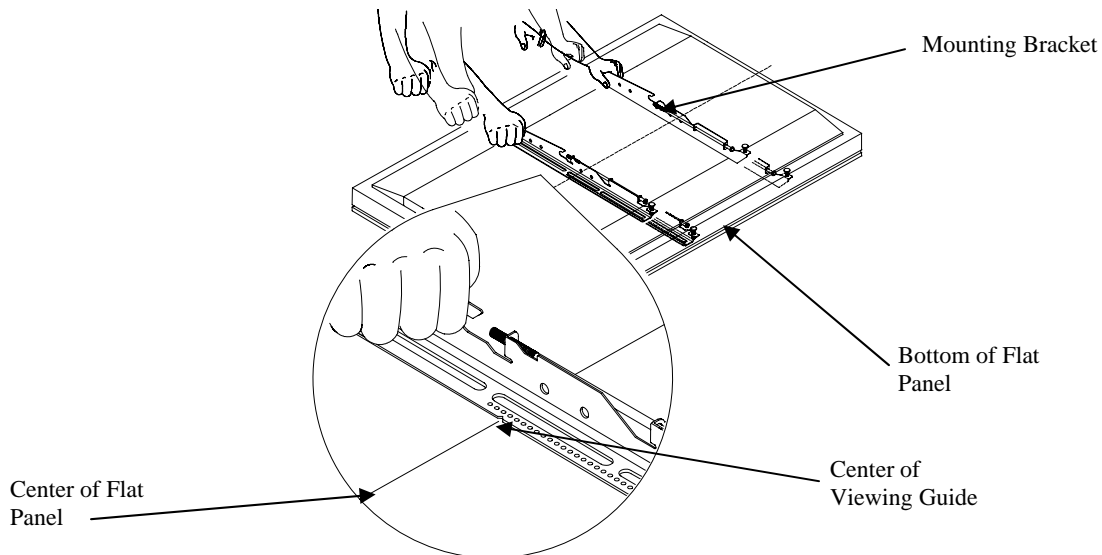

Figure 4. Locating the Center of the Flat Panel
NOTE: The mounting guides are designed with a center viewing guide on the side of them. There will be a “notch” cut on the side of the bracket (Figure 4).
2. Match the center of the viewing guide with the centerline you marked in Step 1 (Figure 4).